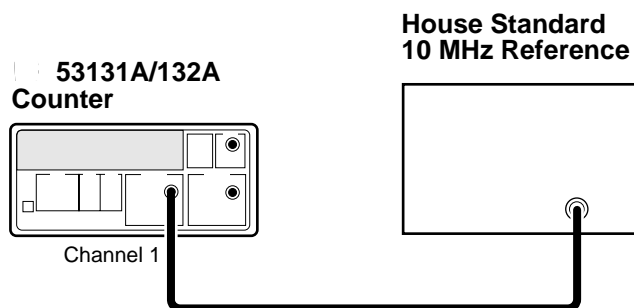

Figure 2-5. Standard Timebase Calibration Setup
- 1 Connect the output of a 10 MHz house standard to Channel 1 of the Counter as shown in Figure 2-5.